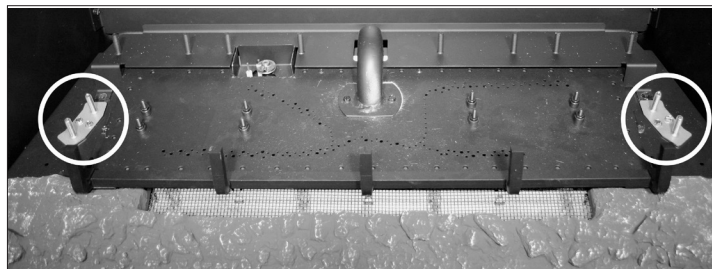
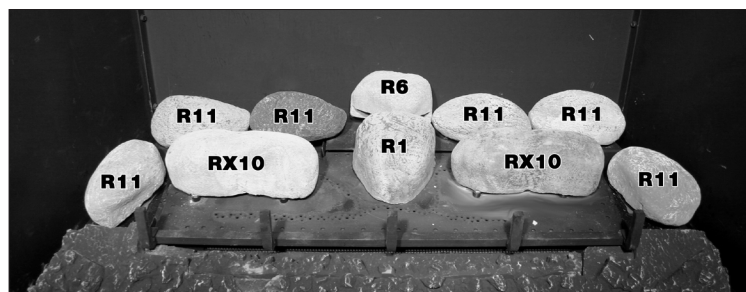

Figure 7.3, Installed Rock Plate and Brackets
Figure 7.4, Rock Set Installation
- 1. Optional: Install (3) porcelain panels.
- 2. Install the (2) rock brackets on the left and right side of the burner. Refer to Figure 7.3.
- 3. Install the rock plate at the back of the firebox. Refer to Figure 7.3.
- 5. Place the (8) spacers onto the pins on the burner. Tighten with the nuts included with this kit using a $\frac{5}{16}$ " nut driver.
- 6. Align the holes in on the bottom each RX10 rock with the pins on the burner, as shown in Figure 7.4. Push to seat.
- 7. Place rocks R6 and R1 over the burner tube as shown in Figure 7.4.
- 8. Place rocks R11 as shown in Figure 7.4. Distribute rockwell embers onto burner and base rocks using a stiff bristle brush.